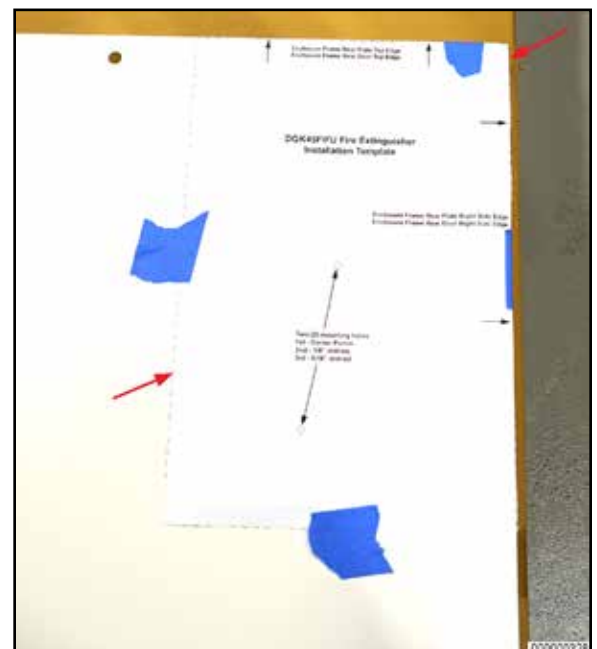

Figure 5
- **Step 9:** Align template on upper right corner of Rear Enclosure Frame Cover Plate. Secure in place with masking tape. (Figure 5)